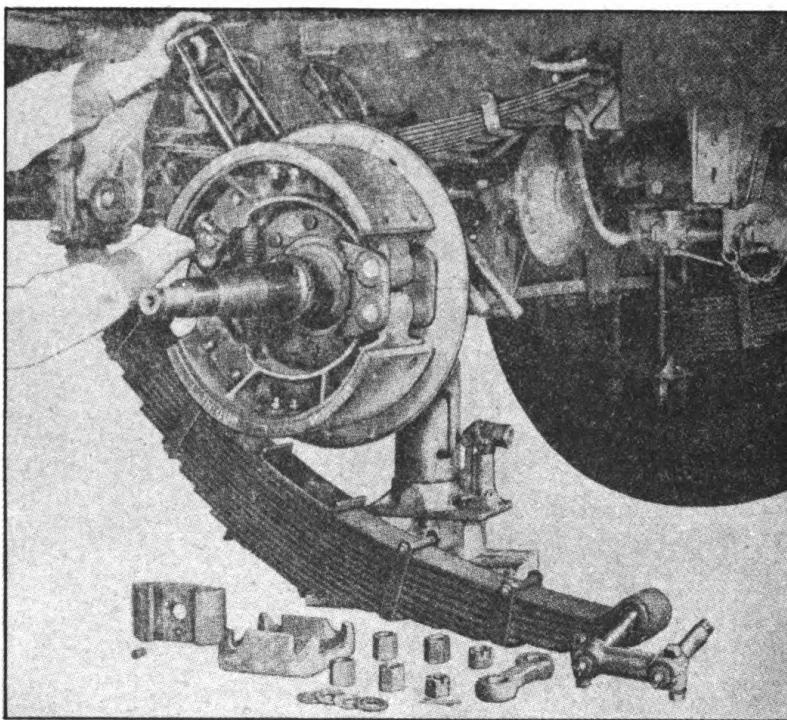

FIGURE 10. AXLE REPLACEMENT.
**5. AXLE REPLACEMENT** (Figure 10).—*a.* Hoist up the trailer at the front of the gear frame and remove wheel and hub assemblies.